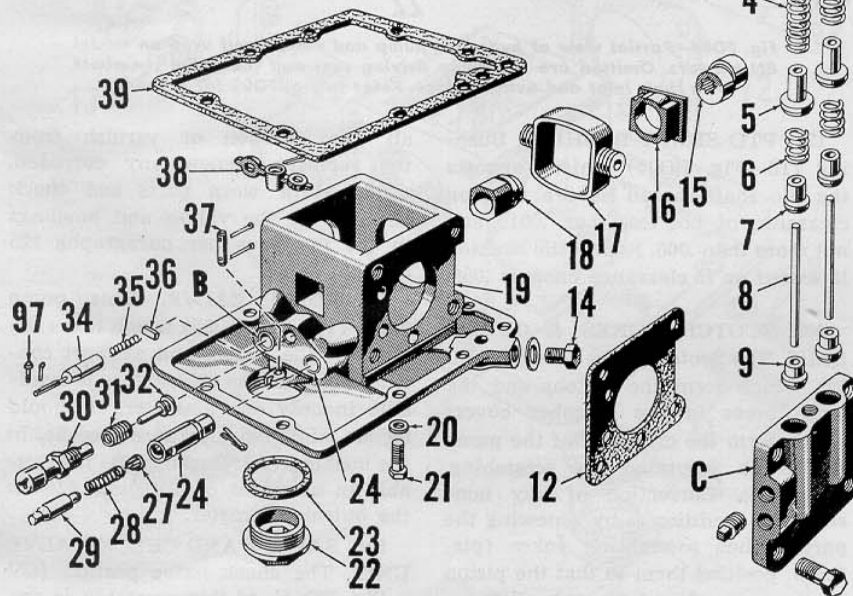
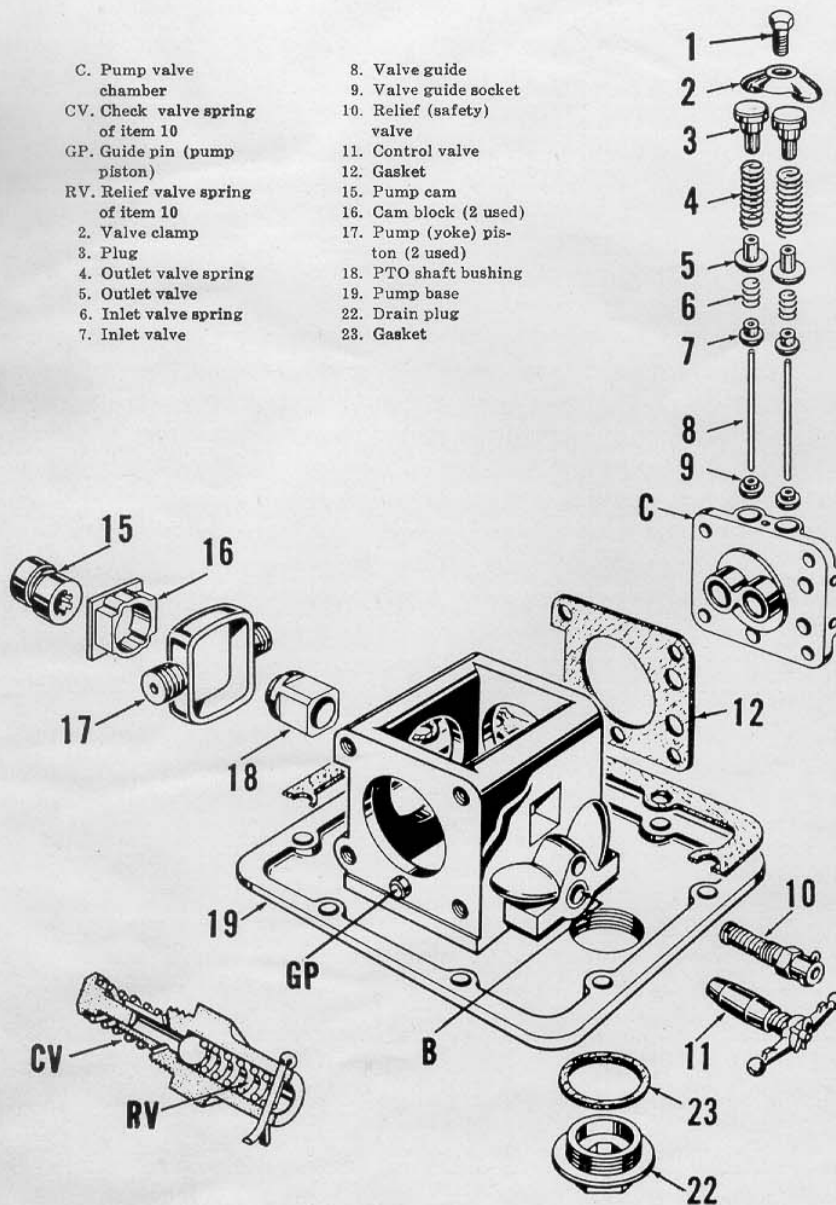
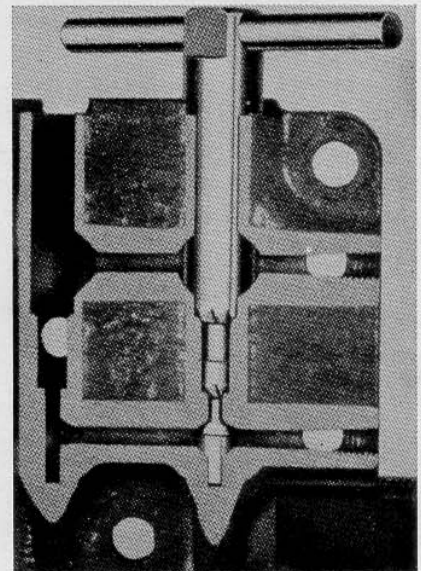

Fig. FO92—Model 8N hydraulic lift pump unit.
Fig. FO95—Models 2N and 9N hydraulic pump unit and related parts.
Fig. FO97—Hydraulic pump inlet and outlet valve seats in pump valve chamber can be reseated as shown.
hexagon head ( $\frac{1}{2}$  x 20) cap screw (14—Fig. FO92) located at right hand corner of pump base and in its place connect a pressure gauge of not less than 1700 and not more than 2500 psi capacity. With the lift arms se-
**116. DISASSEMBLE AND OVERHAUL.** Procedure for disassembling the pump is self evident after examining the actual unit and by referring to Fig. FO92. When removing the rocker lever (38) hold the control valve (29) in position with one hand to avoid the control valve flying. Order of disassembly is relief valve (30) valve rocker lever (38), intake control valve (29), exhaust control valve (34), both valve chambers (C), cam (15) and piston (17) assembly, pto shaft bushing (18), and disassemble the valve chambers (C).
**117. INTAKE CONTROL VALVE.** Intake control valve (29—Fig. FO92) is available in 3 diameters to permit
**120. INLET AND OUTLET VALVES.** Inlet and outlet valves (5 and 7—Fig. FO92) are contained in each of the valve chamber covers. If inspection indicates valves are not seating perfectly same can be reseated using special Ford reseater as shown in Fig. FO97 and the valves can be refaced. If valves leak after this work has been accomplished, make sure that guides (8) and sockets (9) are aligned to give concentric seating and that they are in good mechanical condition.
Fig. FO94—Partial view of hydraulic pump and valves unit used on model 8N tractors. Omitted are the pump driving cam and the valve chambers with their inlet and outlet valves. Refer to Fig. FO92 for legend.
**124. DISASSEMBLE AND OVERHAUL.** Procedure for disassembling the pump used on models 2N and 9N is self evident after examining the pump and referring to Fig. FO95. This pump differs from the unit used on the 8N tractors mainly in that it is equipped with a single control valve (11) instead of an inlet and an exhaust control valve. The single control valve is T shaped and is operated by the control fork, whereas on the pumps used on 8N tractors the control valves are operated by a rocker lever which in turn is operated by a single control lever.
**125. PUMP VALVE.** This pump valve (11—Fig. FO95) which takes the place of the intake and exhaust control valves on the 8N tractors is available in only one diameter. It should be a minimum-clearance-free-fit in the bushing (B). Bushing (B) is available in oversizes of .010 and .020 on the outside diameter.
**126. SAFETY AND CHECK VALVE UNIT.** The check valve portion (CV—Fig. FO95) of this assembly is ex-
127. INLET AND OUTLET VALVES. Inlet and outlet valves (5 and 7—Fig. FO95) are identical to the similar parts used in the 8N tractors. Valves can be reseated by using special Ford reseater as shown in Fig. FO97 and the valves can be refaced. Be sure guides and sockets (8 and 9) are aligned to give concentric seating and that they are in good mechanical condition.
128. PTO SHAFT BUSHING. Bushing (18—Fig. FO95) is identical with bushing used in model 8N tractors and is serviced in same manner as outlined in paragraph 121.
129. SCOTCH YOKES & CYLINDERS. The Scotch yokes (17—Fig. FO95) which form the pistons, and the large bores in the chamber covers (C) which form the cylinders, should be inspected for wear, scratching, etc. Correct any non-standard condition by renewing the parts. When assembling yokes (pistons) to pump, position them so that the piston portions are closest to each other. Pistons and cylinders are the same as used in 8N tractors.